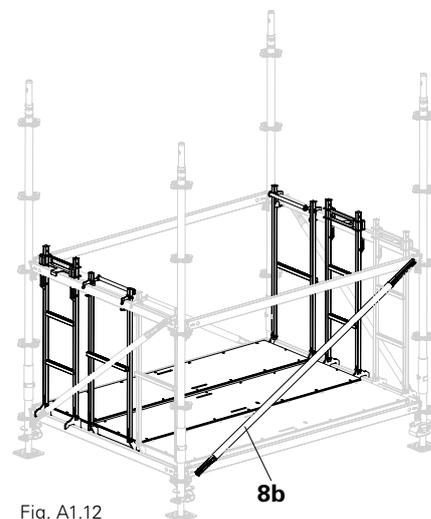

Fig. A1.12
3. 9. Install second Ledger Brace (8b). (Fig. A1.12)